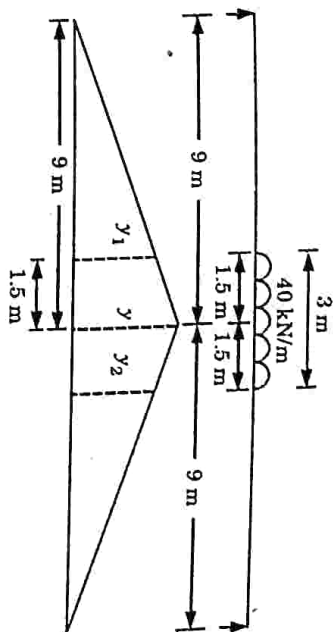

Fig. 4.15.2.
- i. Absolute bending moment occurs at the centre of the span when the loading is symmetrically placed on the span as shown in Fig. 4.15.2.